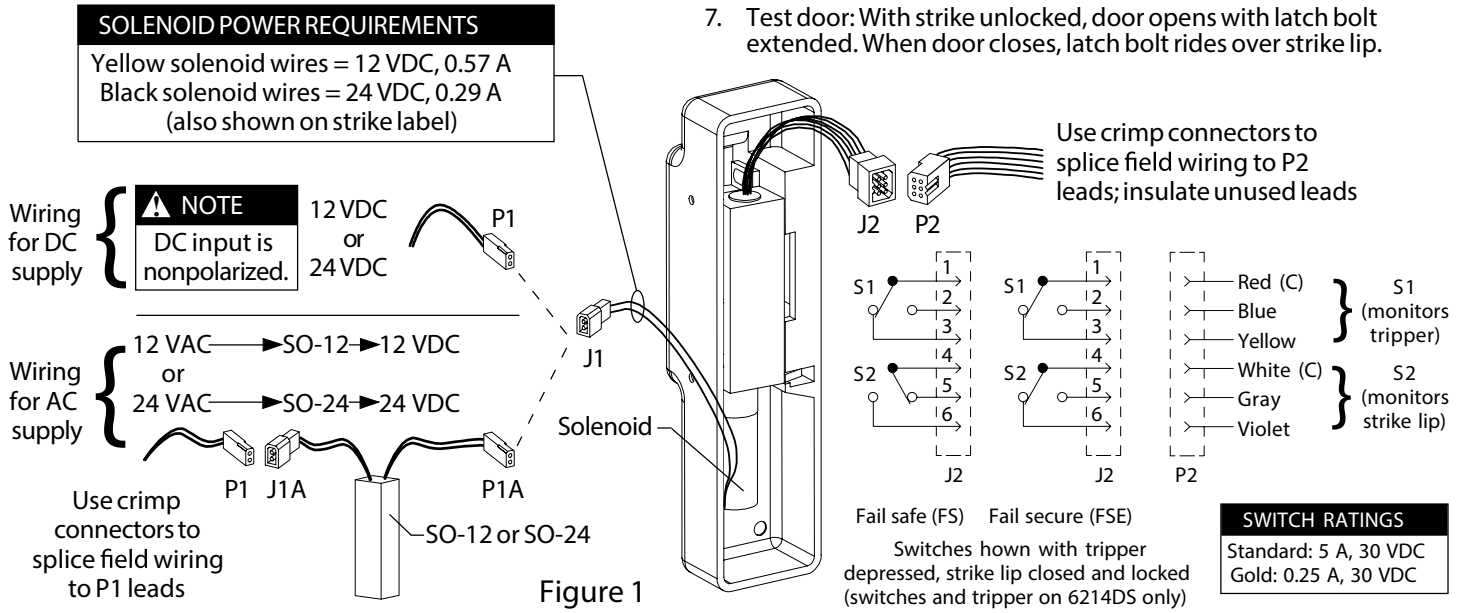

Figure 1
3. Wire strike (Figure 1). (Switches on 6114DS only.)
4. Test strike: Apply solenoid power. Fail secure (FSE) lip unlocks. Fail safe (FS) lip locks. Figure 1 shows status of switches.